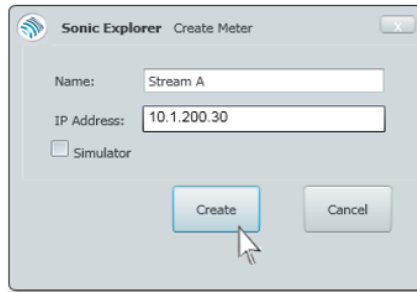

Figure 9-2 Create a meter
- ▶ A menu will pop-up asking you for a **Name** and an **IP Address**. Fill in these fields accordingly. (Please see Figure 9-2).